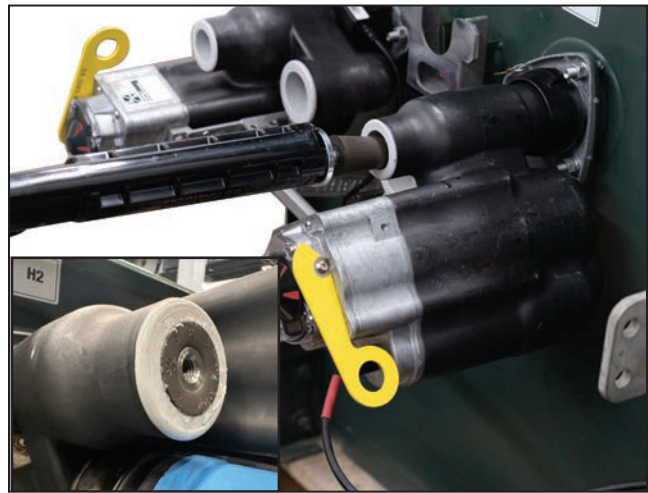

Figure 9. Thread the tool into the plug (insert) and using a shotgun stick or hookstick, pull the plug out of the bushing well interrupter opening.
- STEP 3.** Attach a shotgun stick or a hookstick fitted with a distribution prong to the plug install/removal tool. Pull with significant force to remove the plug. See Figure 9.